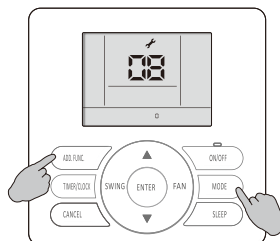

fig.4
1. Hold down both MODE button and ADD. FUNC. button for 3s, symbol  and parameter number blinking at the same time. (see fig.4)